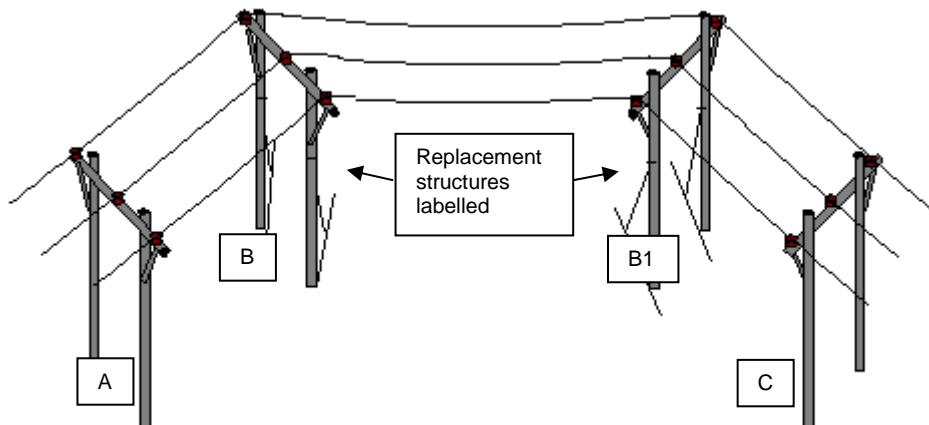

Figure 10: Stringed H Pole Strain Structures
- b) Tension and make-off stays, ascend replacement pole, use pulley blocks and hand lines, lift cross arm and attach it (see figure 10).
- e) Cut conductors between temporary structure and rotten / damaged pole, maintain tension of long slings/tirfors, complete conductor tensioning, regulate and clamp-in onto the replacement structures (see figure 10).